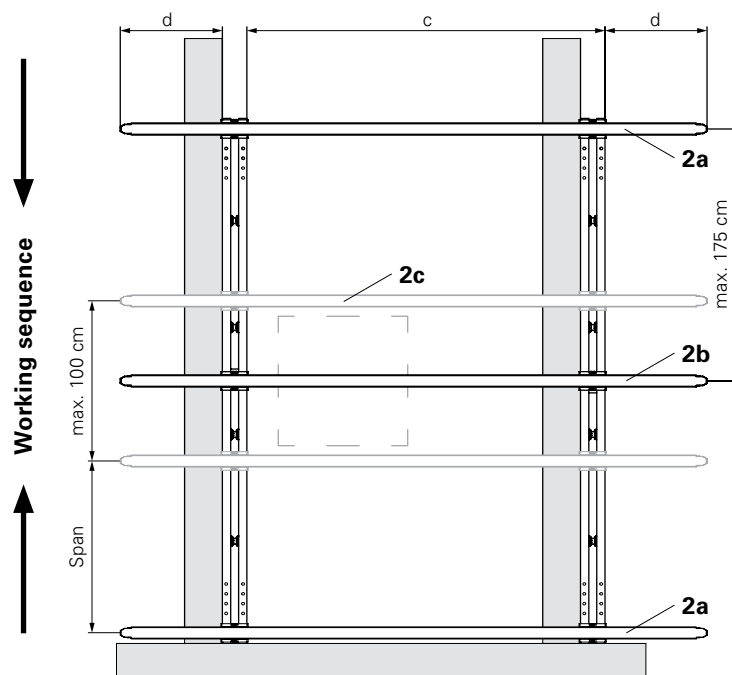

Fig. B5.03
The overhang d is the same on both sides. (Fig. B5.03)
- (Fig. B5.03)
Compare DIN EN 12811-1. (Fig. B5.03)